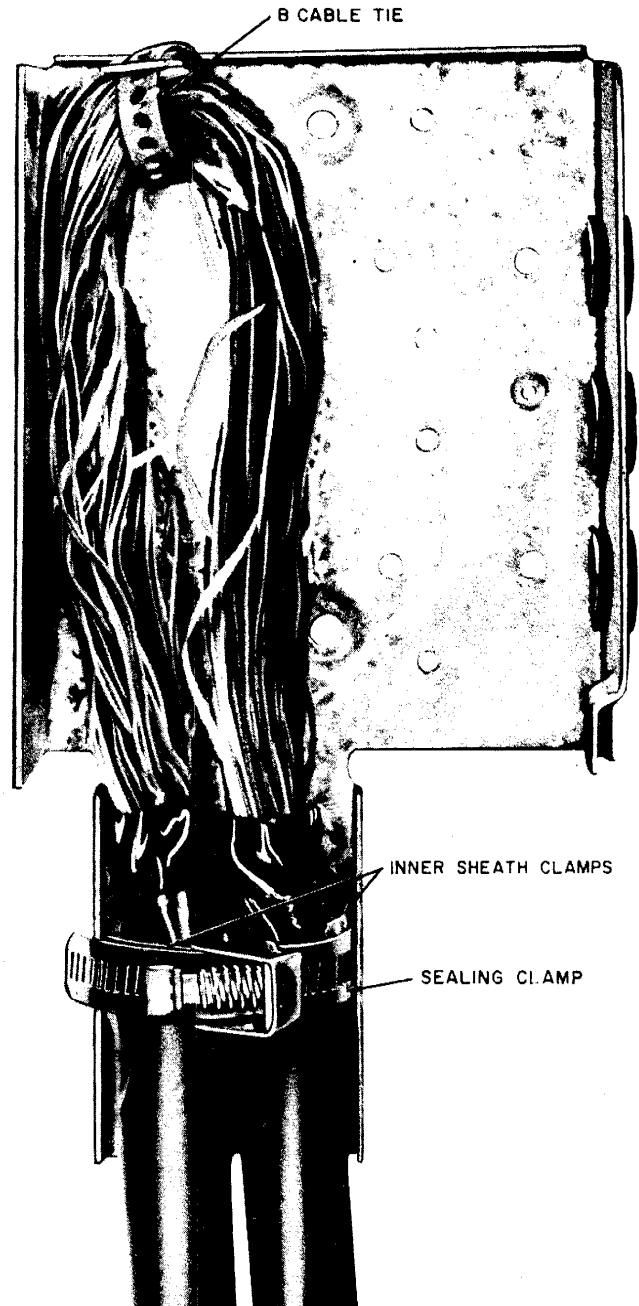

Fig. 6—3A1 Closure in Place Without Cover and U-Guard
5.01 Place the small sealing clamp through the keeper on the base (Fig. 1). Tighten the clamp on the cable butts and inner sheath clamps, as shown in Fig. 6. Make sure that the sealing clamp screw is centered on the cable loop, as illustrated in Fig. 6, to permit proper mounting